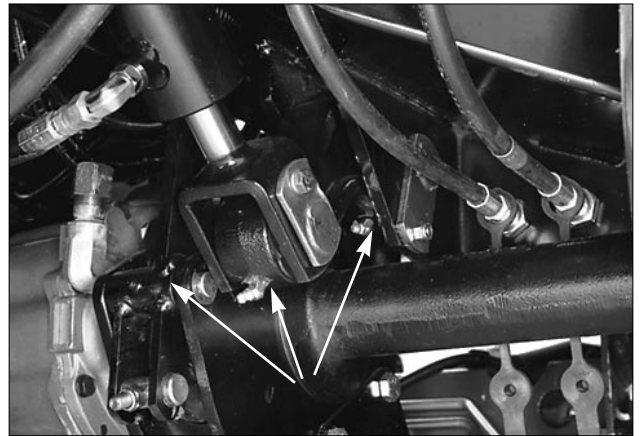
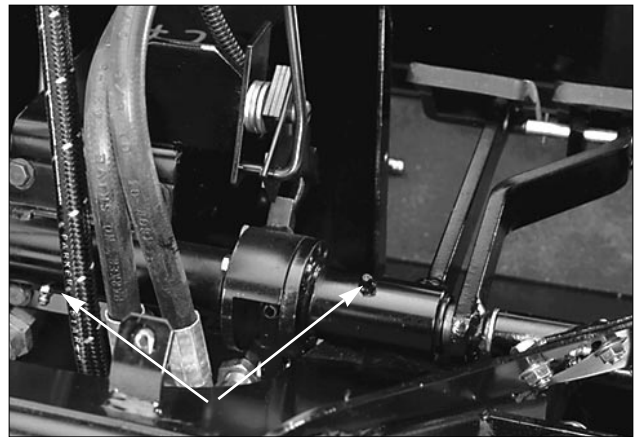
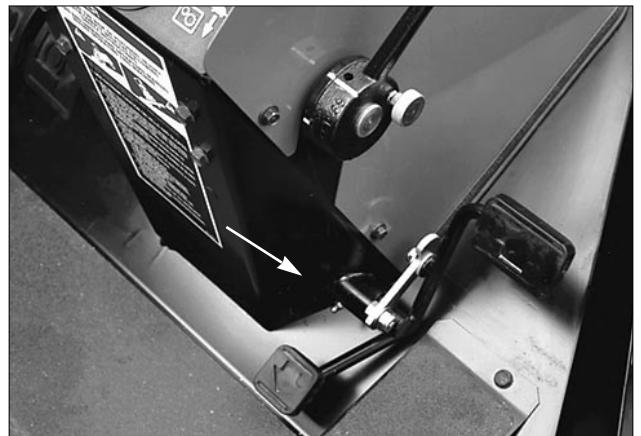
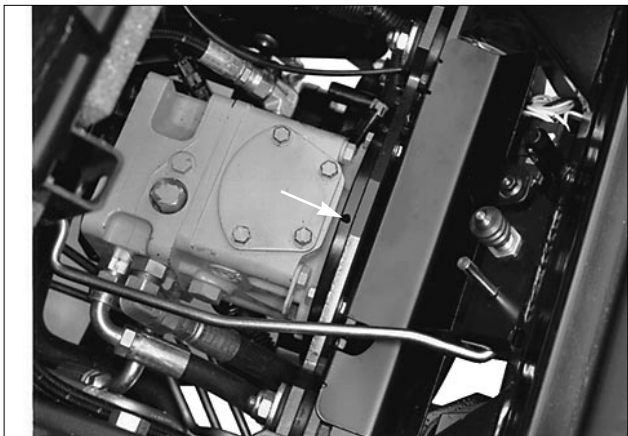

Figure 21
Figure 22
Figure 23
Figure 24
## Greasing (Fig. 21–33)
The grease fittings that must be lubricated are: Lift arm pivot (2), lift cylinder (2), brake arm pivots (2) (Fig. 21); brake pivot (1), brake pivots (2) (Fig. 22); traction pedal pivot (1) (Fig. 23); engine to pump drive shaft (2) (Fig. 24 & 25); traction adjuster (1) (Fig. 26); P.T.O. Bearing (Fig. 27).